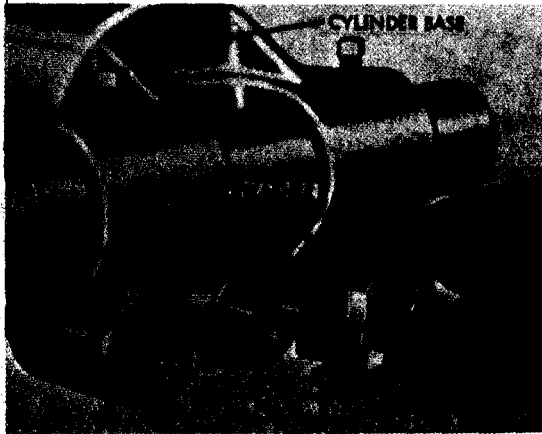

Figure 106. Removing bypass plunger plug and washer
- (5) **Remove acorn nut, jam nut, and copper washer from plug opposite cylinder head end.** Remove bypass plunger plug (fig. 106) and washer from cylinder base.
- (b) Position washer on bypass plunger plug and install plug in cylinder base (fig. 106). Install copper washer, jam nut, and acorn nut on plug.